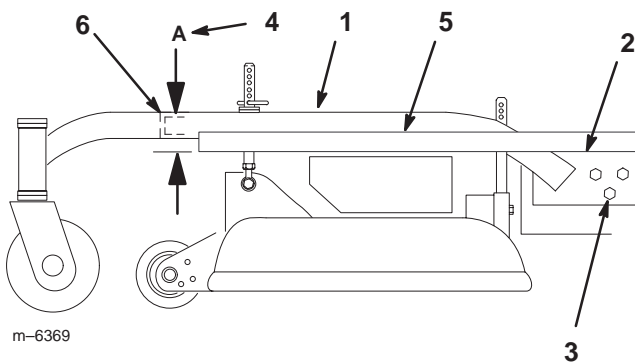

Figure 50
3. Place a long straight edge on top of the engine deck as shown in figure 50.
4. At the carrier frame cross tube, measure location **A** height (Fig. 50). This measurement must be 1–5/16 inch (33 mm), plus or minus a 1/4 inch (6 mm).
6. Loosen the carrier frame mounting bolts on both sides of the machine (Fig. 50).
7. Align the carrier frame and engine deck to match 1–5/16 inch (33 mm), plus or minus a 1/4 inch (6 mm) at location **A** (Fig. 50).